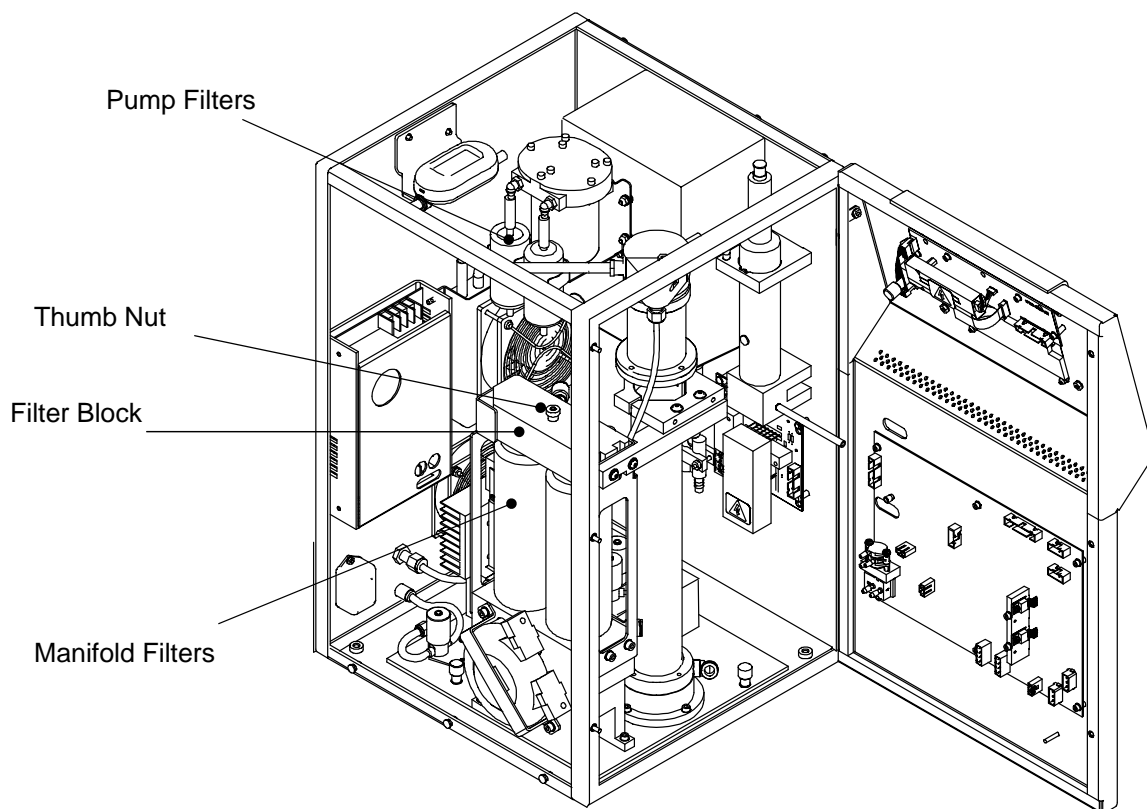

Figure 8-3
1. Find the Manifold filters in Figure 8-3.
1. Find the blue pump filters in Figure 8-3.